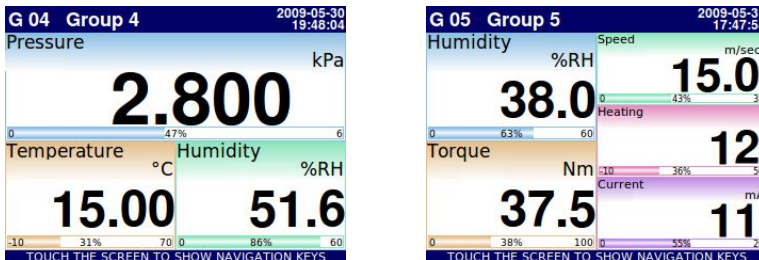

Fig. 6.6. Examples of **Numerical Values** presentation mode
- as numerical values Fig. 6.6